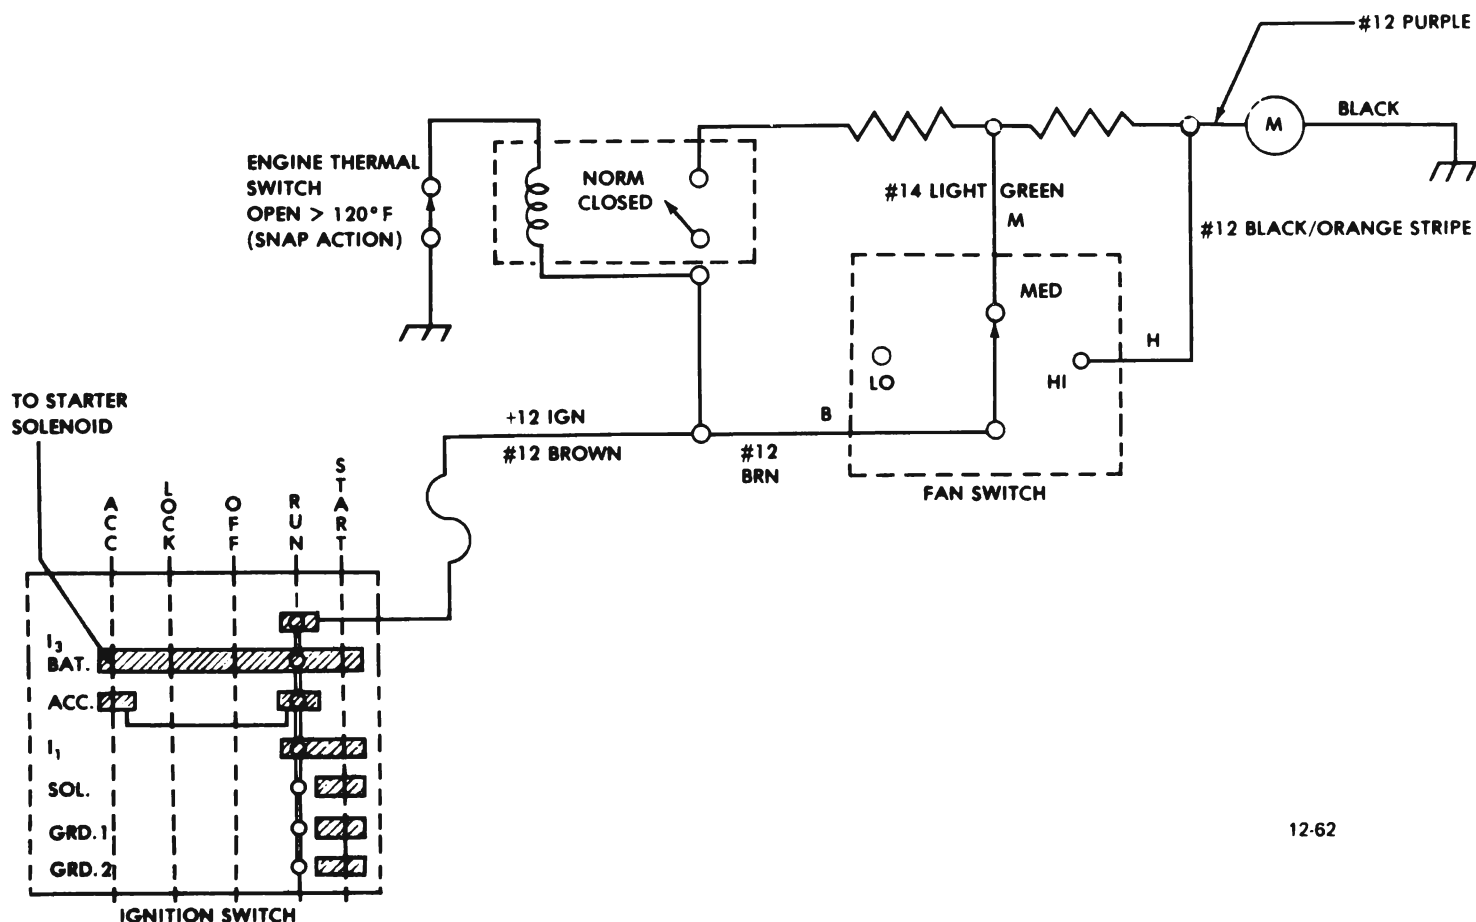

Figure 12-9 Heater System Wiring Diagram
The heater system is an air mix type system in which outside air is heated and then mixed in varying amounts with cooler outside air to attain the desired air temperature. The system consists basically of three parts: (1) the blower and air inlet assembly, (2) the heater assembly and (3) the heater control assembly (see Figure 12-9). The operation of the system is as follows:
The operation of the blower motor is controlled by a FAN switch on the heater control. The motor is connected in series with the three position FAN switch and also the blower resistor assembly. See Figure 12-9. A 25 amp fuse, located in the fuse block, is in series between the blower motor and the battery.